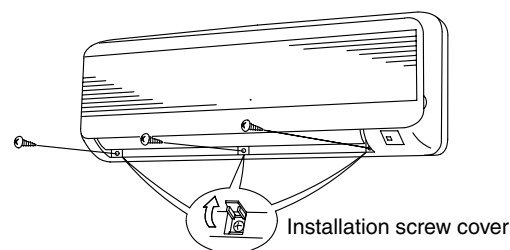

Fig. 3-143
- (3) Adjust the flap so that it is horizontal. (Fig. 3-143)
- (4) Open the installation screw covers below the grille (3 locations). (Fig. 3-143)
- (5) Remove the screws. (Fig. 3-143)